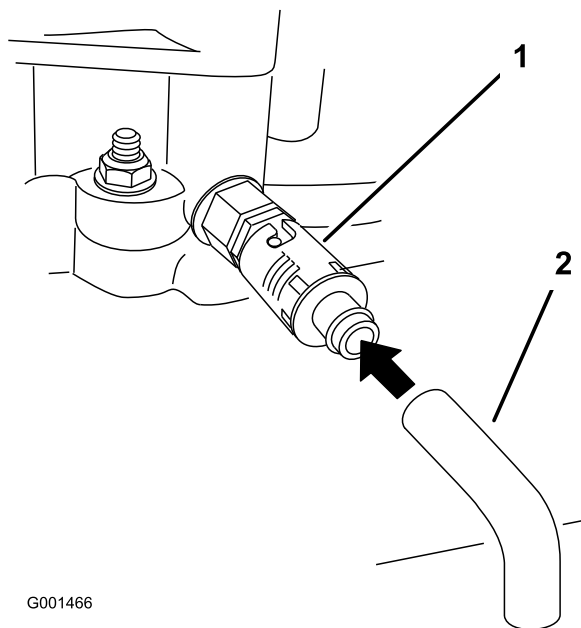

Figure 23
6. Place a pan below the drain hose. Rotate the oil drain valve to allow oil to drain (Figure 23).
8. Remove the drain hose (Figure 23).